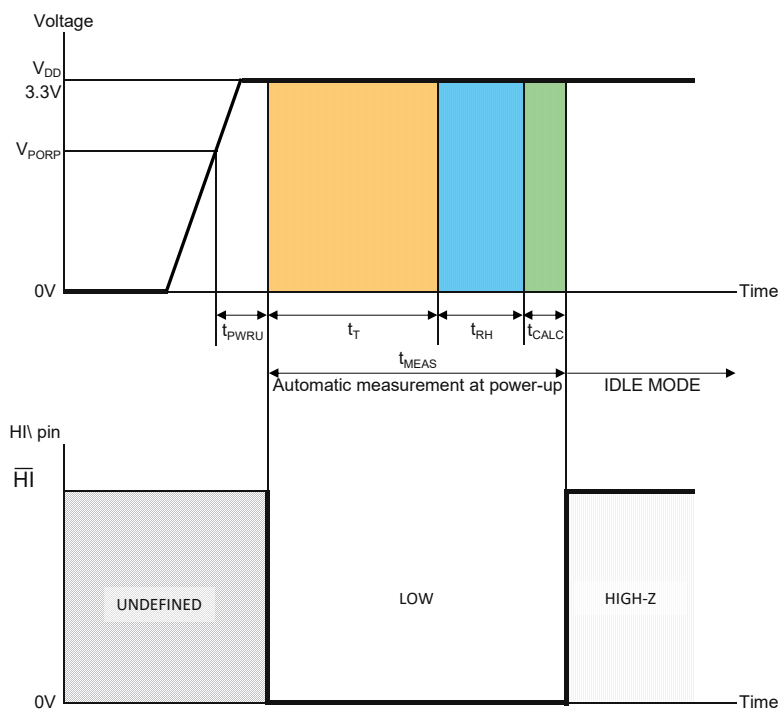

Figure 7: Sensor behaviour at power-up
- b. During power up until the start-up measurement and calculation is finished (please refer to Figure 7 in chapter 5.2.)